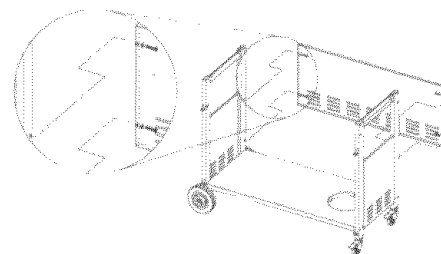

Figure 4
4. Attach the back panel to the cart legs using (4) $\frac{1}{4} \times 3/5$ " Phillips head screws and (4) $\frac{1}{4}$ " lock washers. (Fig.4)